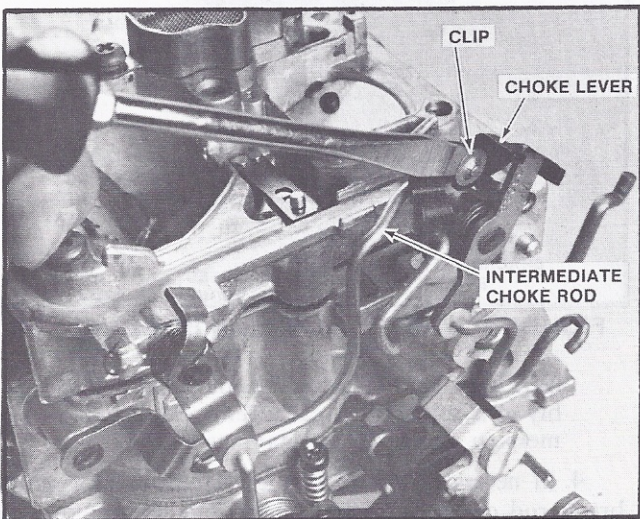

FIGURE 17 CHOKE ROD REMOVAL (L4 SHOWN)
7. Remove and discard retaining clip from intermediate choke rod at choke lever (Figure 17). A new retain-